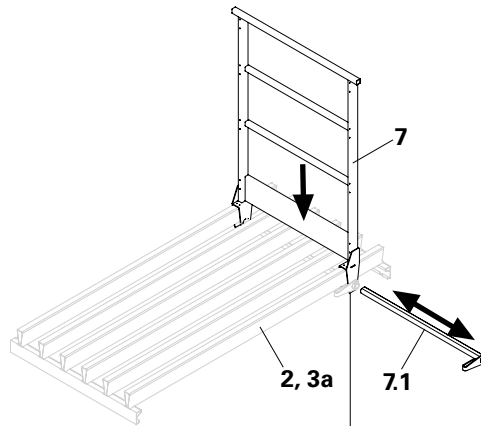
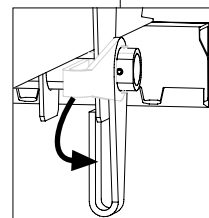

Fig. A7.05
Fig. A7.07
1. Pull the tube (7.1) out of the Guardrail GF (7).
3. Push in the tube (Fig. A7.05) and secure the guardrail by using the handle to turn the tube. Nail the guardrail to the element. (Fig. A7.07)